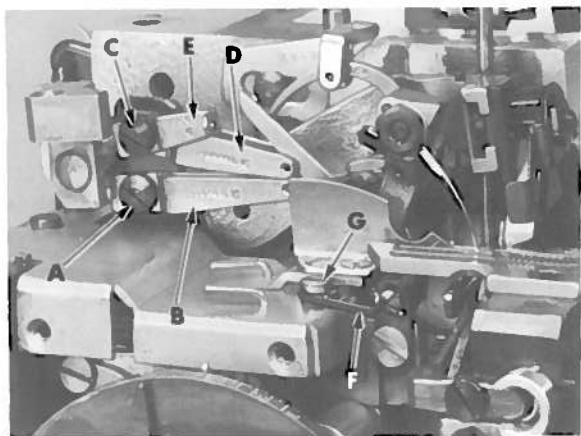

Fig. 21
Loosen screw (A, Fig. 21). Center lower looper thread eyelet (B) in its adjusting slot and set eyelet in a horizontal position. Hold eyelet (B) in position and tighten screw (A). Loosen screw (C). Center upper looper thread eyelet (D) in its adjusting slot and set eyelet so it rests on the top surface of lower looper thread eyelet and back of lower looper thread eyelet eye.